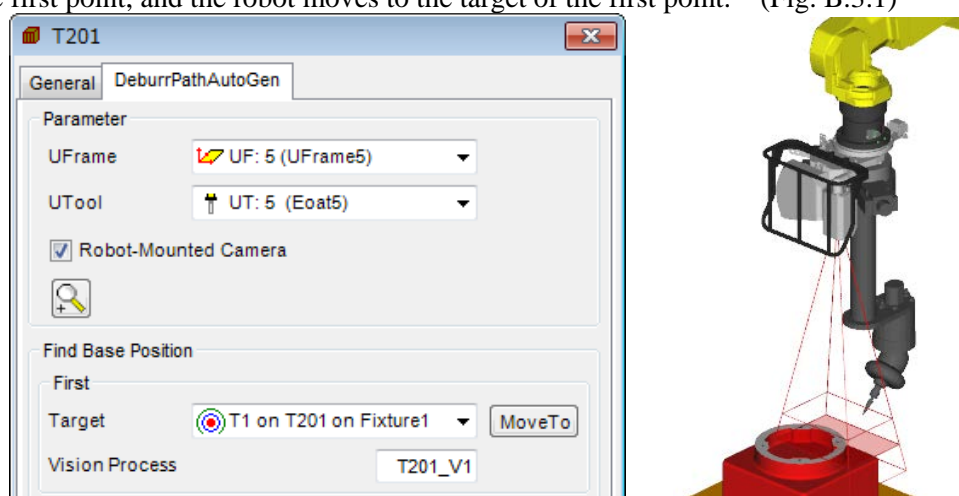

Fig. B.3.1 Moving to the found position
- 1 Open the "DeburPathAutoGen" tab on the property page of the part, and press the "MoveTo" button for the first point, and the robot moves to the target of the first point. (Fig. B.3.1)